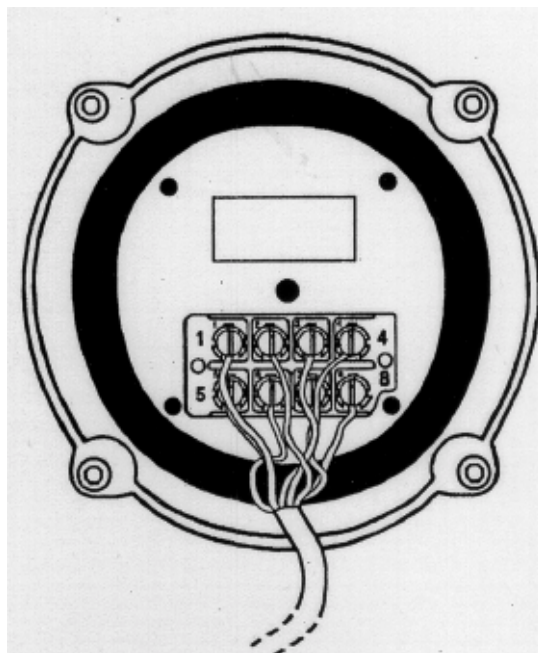

Figure 3 Rotator Wiring
A. Tower mounted as per Figure 3	8.5 square feet (.79 sq. m) of wind surface area
NOTE: The specifications call for heavier gauge wire on Terminal #1. Lead #1 must be heavier gauge and less total lead resistance (see Specifications, page 2). Wire the control to the rotator as shown in Figure 3.
The rotator is mounted inside a tower (see Figure 3) to the flat tower plate by means of four bolts furnished in the hardware kit. Use the following procedure:
3. The rotator is attached to the tower plate by means of fourbolts and lockwashers (see Figure 3). Spacer washers must be used between the rotator and plate for clearance of the rotator housing bolt heads. The flat tower plate must be drilled in four places using the template provided with this manual unless the tower plate is already properly drilled. A fifth hole must be drilled or cut to clear the control cable.
5. Trial assemble the mast to the top of the rotator using the U-bolts, nuts and lockwashers through the rotator and clamps as shown in Figure 3. The maximum mast diameter that may be used is 2 1/16" O.D.. We recommend 1 1/2" nominal steel pipe with 1/9" O.D. in standard wall thickness of .145". For stacked arrays or very large beams, we recommend extra heavy-duty wall thickness.200". Both steel pipes can be purchased to specification ASTM-120.